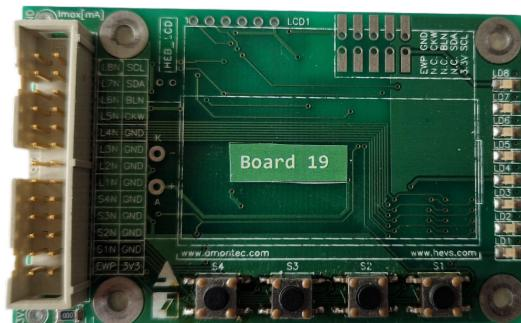

Figure 5 - Buttons and LED board
- A control board with 4 buttons and 8 LEDs, see figure Figure 5.